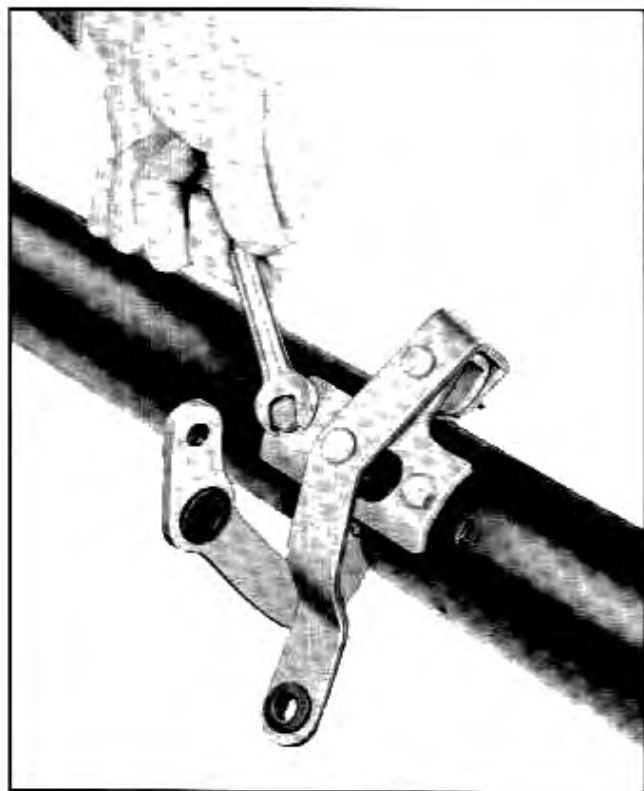

Fig. 7-7 Lower Gearshift Levers
11. On Synchro-Mesh cars remove gearshift selector lever and bracket by removing two retaining screws (Fig. 7-7). When selector lever and bracket assembly have been removed, pivot pin can be pulled out to disassemble lever from bracket.